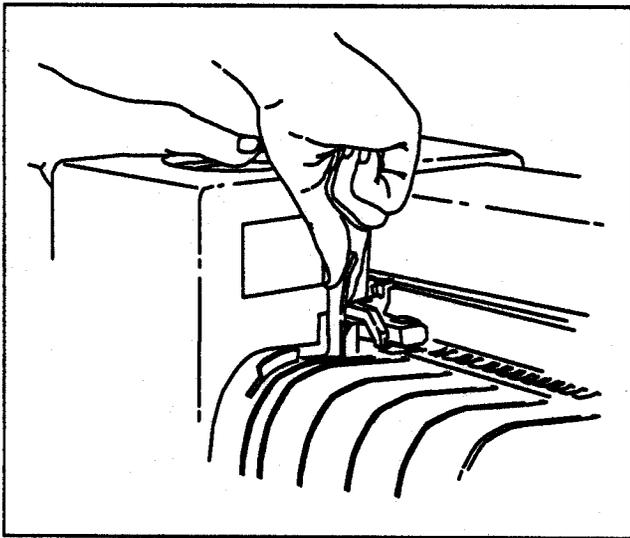

Figure 3-10. Raising The Pinch Wheels
b. Push the paper load lever, located at the left end of the platen, toward the back of the plotter to raise the pinch wheels. See Figure 3-10.